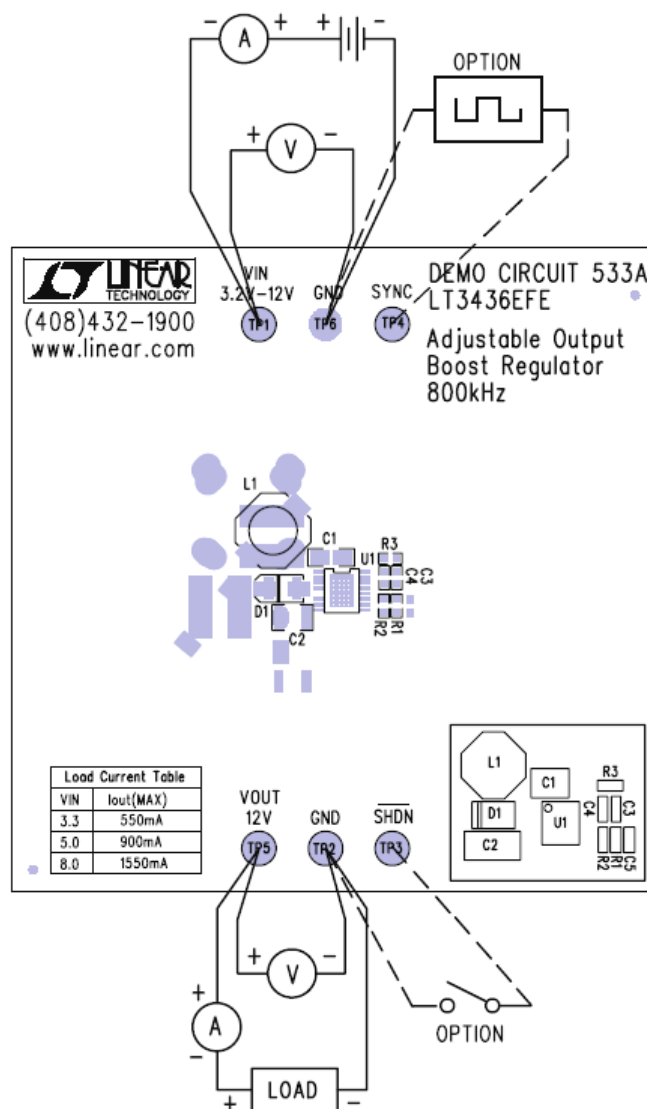

Figure 1. Proper Measurement Equipment Setup
Demonstration circuit 533 is easy to set up to evaluate the performance of the LT3436. Refer to Figure 1 for proper measurement equipment setup and follow the procedure below:
**NOTE:** Connect the power supply (with power off), load, and meters as shown in Figure 1.